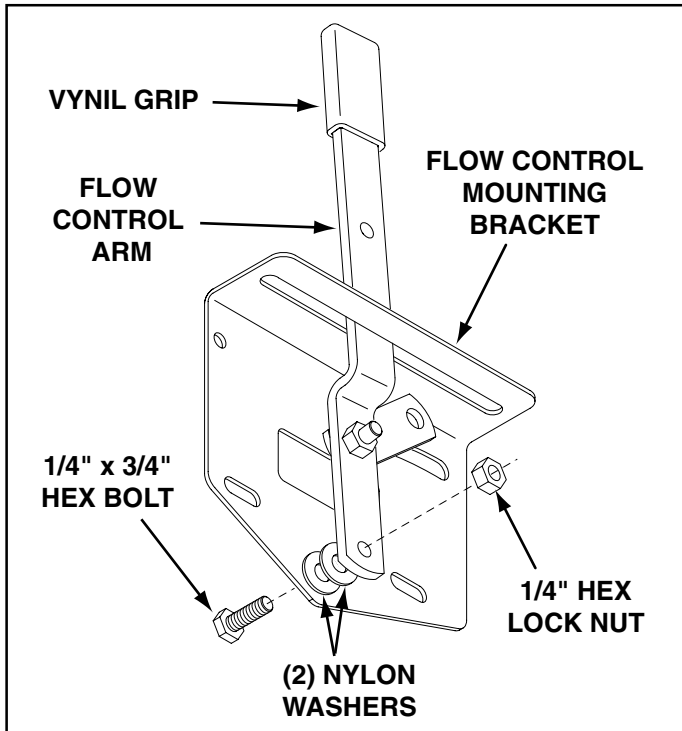

FIGURE 7
14. Assemble the flow control arm to the flow control mounting bracket using a 1/4" x 3/4" hex bolt, two nylon washers and a 1/4" hex lock nut as shown in figure 7. **Tighten carefully.** The flow control arm should be snug, but should pivot with no more than a slight resistance.
15. Assemble the vinyl grip. See figure 7.